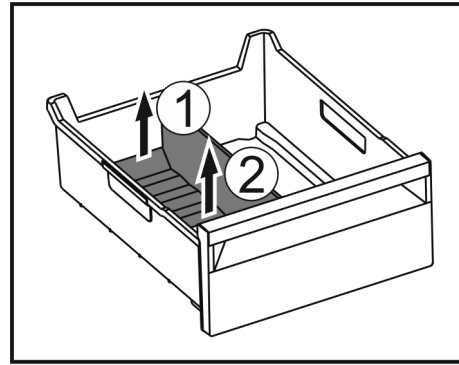

Fig. 132
- Lift the rear part of the ice compartment divider. Fig. 132 (1)
- Remove the ice compartment divider upwards. Fig. 132 (2)